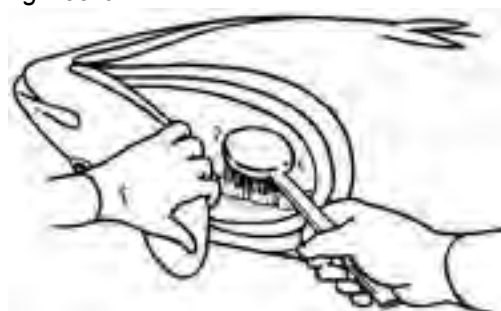

Fig. 25 Scrub the base of the skull and the vertebrae
- Scrub the base of the skull and vertebrae to remove all coagulated blood and kidneys (Fig 25).